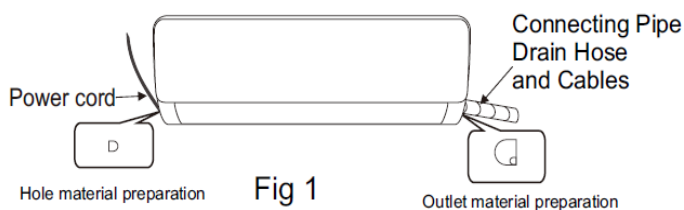

Fig 1
1. Depending on the position of the unit, the piping may be routed sideways from the left or the right ( Fig 1 ), or vertically from the back( Fig 2 )(depending on the pipe length of the indoor unit). In the case of sideways routing, cut off the outlet cutting stock of the opposite side.